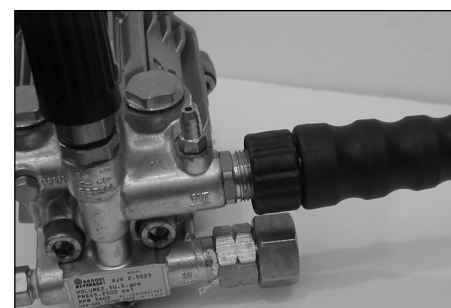

Figure 7 - Connect high pressure hose to pump
8. Connect the high pressure hose to the pump outlet (See Figures 7 and 8).